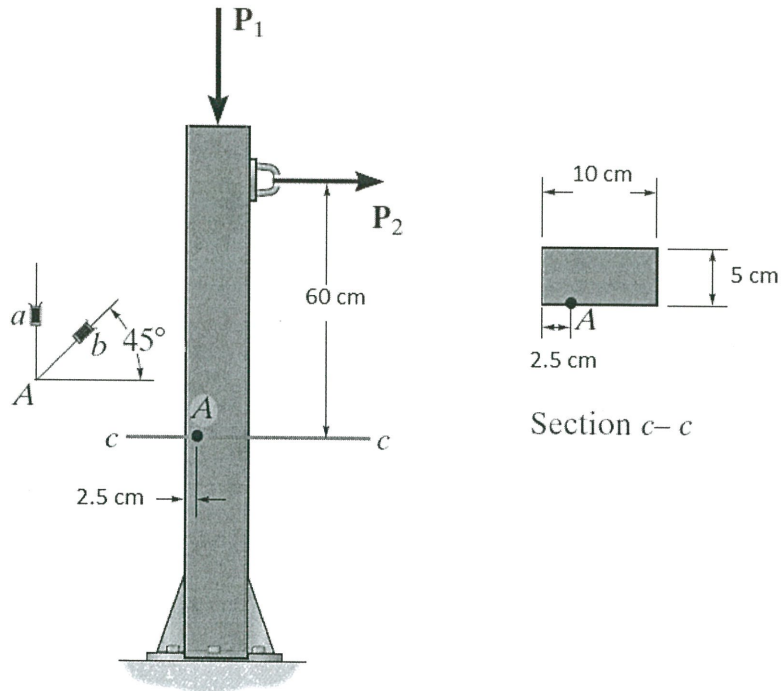

Figure Q1
- Q1** The steel ($E = 200\text{GPa}$, $\nu = 0.32$) vertical post is loaded to the forces as shown in **Figure Q1**. If the strain gauges a and b are firmly attached at point A give readings of $\varepsilon_a = 300\mu$ and $\varepsilon_b = 175\mu$. Determine the magnitudes of P_1 assuming that $P_1 = P_2$. There is no transverse force occurs at point A . Solve the following problems: